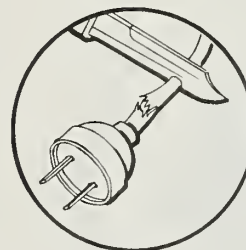

Fig. 1
1. Cut the cord off at the damaged part. (Fig. 1.)